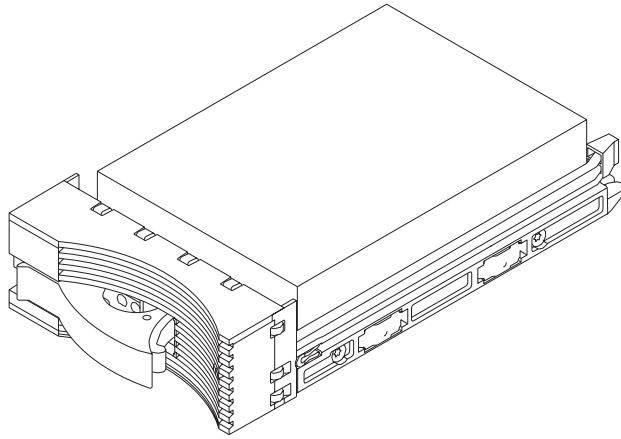

Figure 6. Disk Drive Module on its Side for Safe Storage
7. Lay the disk drive module on its side as shown in Figure 6. It rests on four blue supports (not visible in the figure) on the bottom of the disk drive module. This prevents the disk drive module from falling over and becoming damaged.